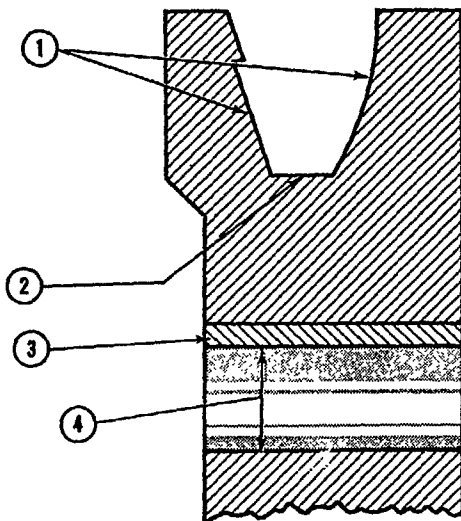

Figure 51
2. Inspect the pulley for possible wear at the point shown in Figure 51.